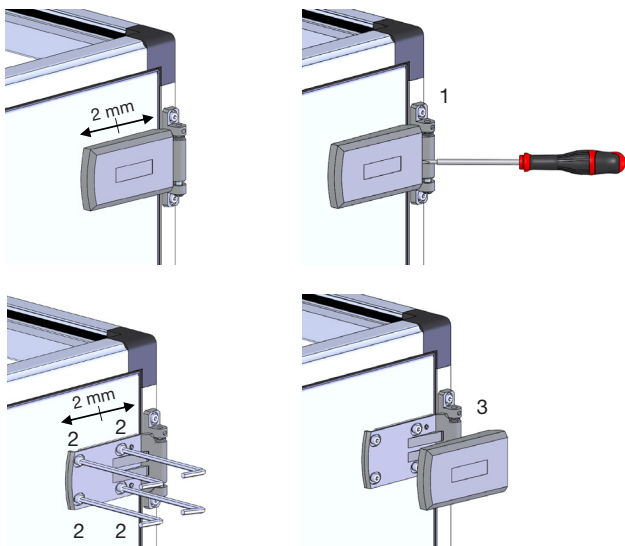

Figure 39
- Follow the steps in Figure 39.
- Remove protective PVC cover from the hinge (1)
- Unscrew screws (2)
- Place PVC cover back on the hinge (3)